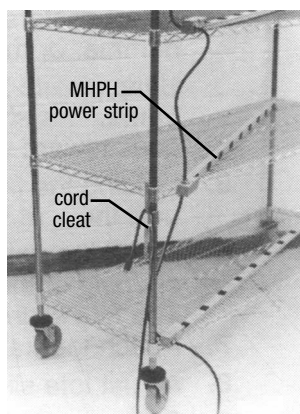

figure 1
IMPORTANT: After bottom shelf is in place, please note that cord cleat MUST be between the bottom & 2nd shelves or 2nd & 3rd shelves, as desired, on the post at the left of desired power strip location (figure 1). Shelves should be placed a maximum of 20" apart.
- With the unit upright, lay one MHPH power strip on each shelf (figure 1).